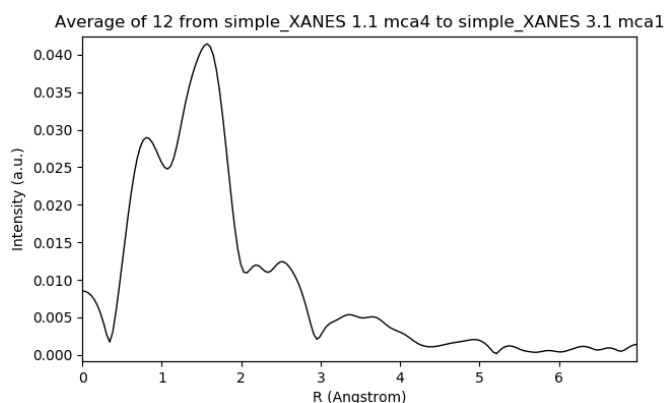

Figure 2-4: The Fourier transform of the EXAFS data.
- 4) Finally, let's look at the Fourier transform of the data to see something that can more readily be qualitatively interpreted. Again, redo the average of the mca data, then choose 1D Plugins > XAS > FT. You should get the result shown in Figure 2-4.